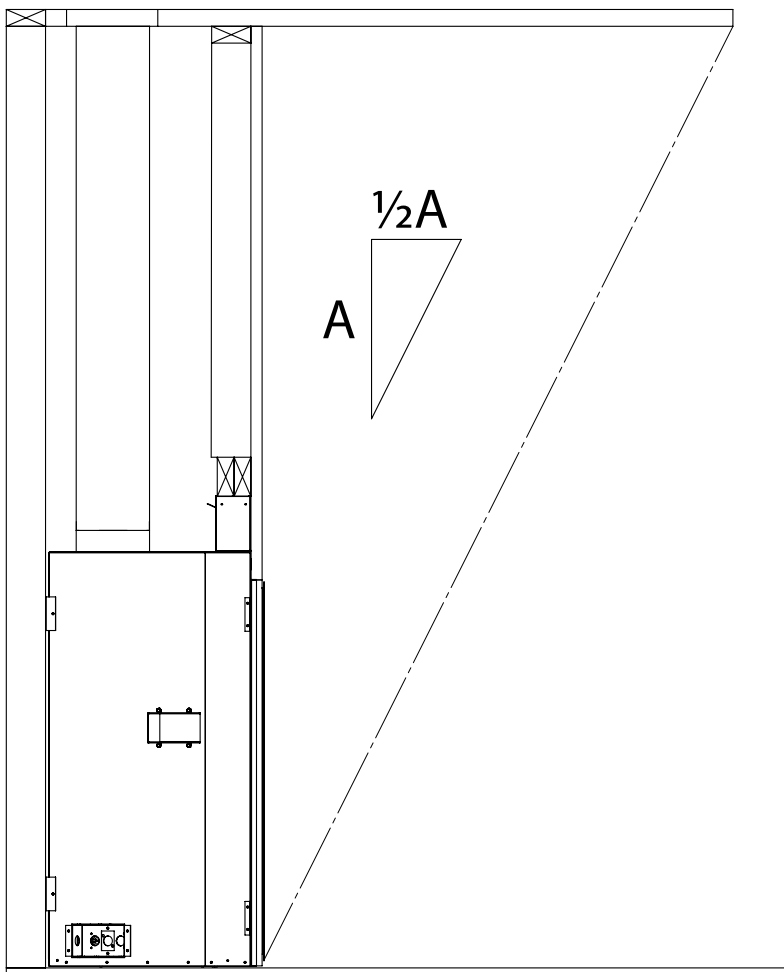

Figure 49: Overhang Depth Requirements
- The fireplace must be protected by an overhang with a depth that is at least equal to half of its height from the base of the fireplace, as shown in Figure 49.